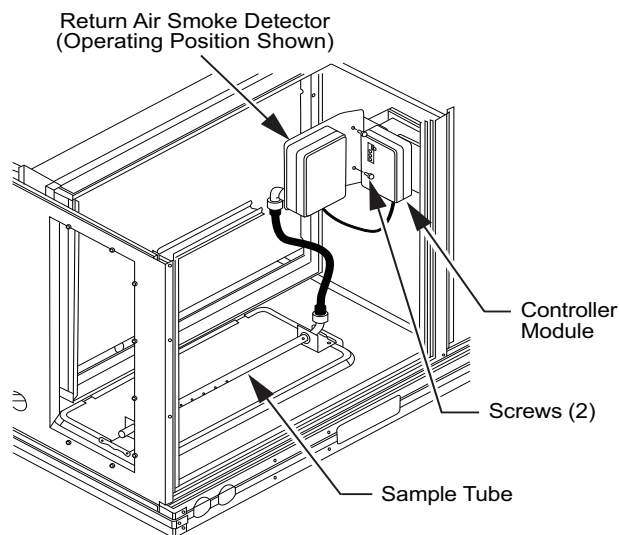

Fig. 46 — Return Air Smoke Detector Operating Position
3. Rotate the detector plate so the sensor is facing outwards and the sampling tube connection is on the bottom. See Fig. 46.